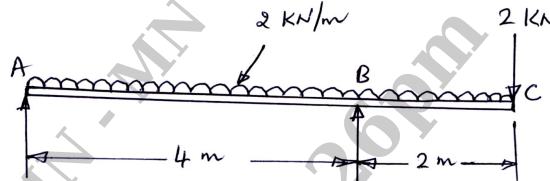

Fig.Q5(a)
- 5 a. Draw the shear force and bending moment diagrams for the overhanging beam carrying uniformly distributed load of 2 kN/m over the entire length and a point load of 2 kN as shown in Fig.Q5(a). Locate the point of contra flexure.